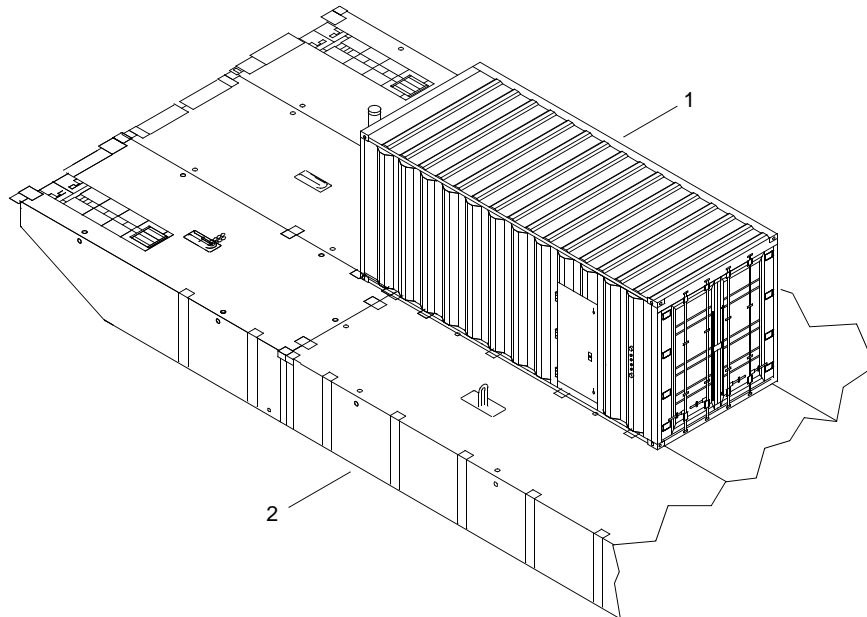

Figure 28. Generator Container
11. Using crane, remove generator container (figure 28, item 1) from FC pierhead (figure 28, item 2).